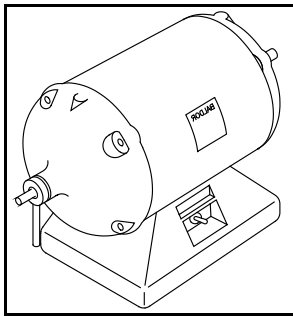
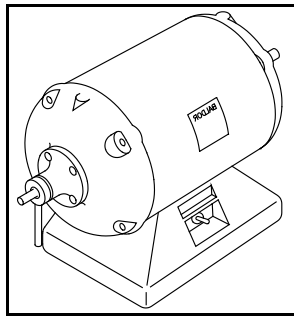

Figure 3.
Figure 4.
3.1 If you have a lathe with a chuck ejector similar to the one pictured in Figure 3, you must replace the whole end plate using a Q237 or Q239 adapter. Go to section 8.0, REPLACE THE END PLATE, before continuing. If you have the removable ejector assembly pictured in Figure 4, you may continue to the next step.